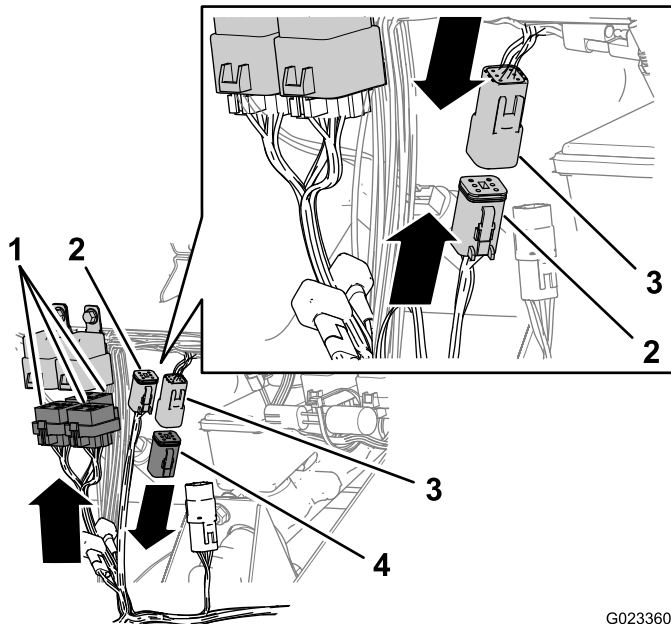

Figure 23
1. Route the branch of the wiring harness with the 3 connectors with 5 sockets each (Figure 23) up to the relays that you installed in 6 Installing the Relays (page 7).
2. Connect the 5-socket connectors to the relays (Figure 23).
3. Remove the resistor from the 6-pin connector for the hand throttle up circuit (Figure 23).
4. Connect the 6-pin connector for the hand throttle pull-up circuit of the machine harness to the 6-socket connector of the hand throttle pull-up circuit of the hand-throttle harness (Figure 23).